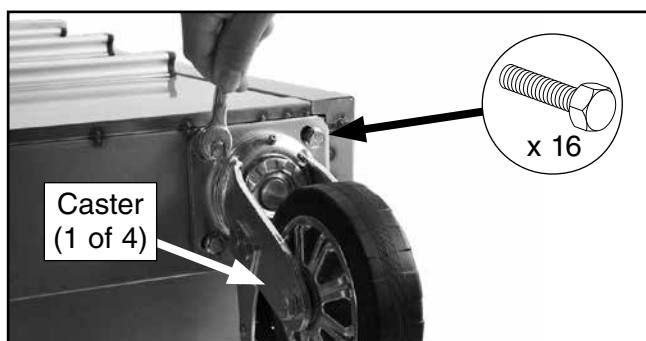

Figure 3. Example of caster installation.
4. Attach each caster using (4) $\frac{3}{8}$ "-16 x 1" hex bolts (see **Figure 3**).